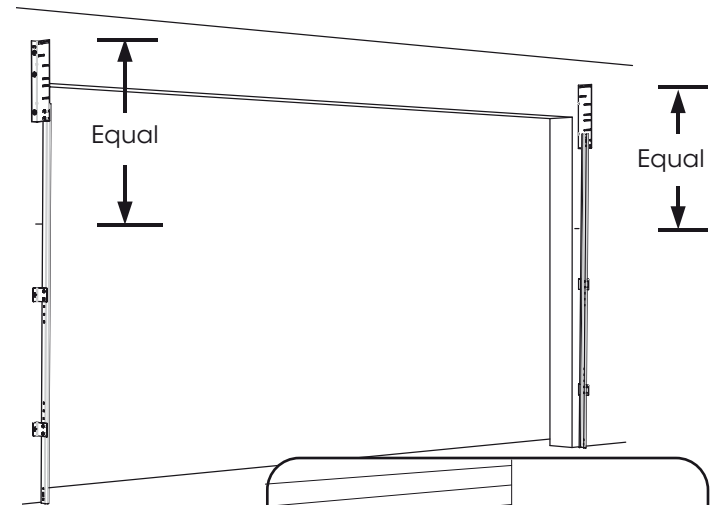

Fig: 3.1.1
- Set the vertical tracks parallel on both sides of the door. Use the level/datum marks to ensure the tops of the tracks are level with each other and the same distance to the top of the track or the door will not function correctly. See Fig 3.1.1